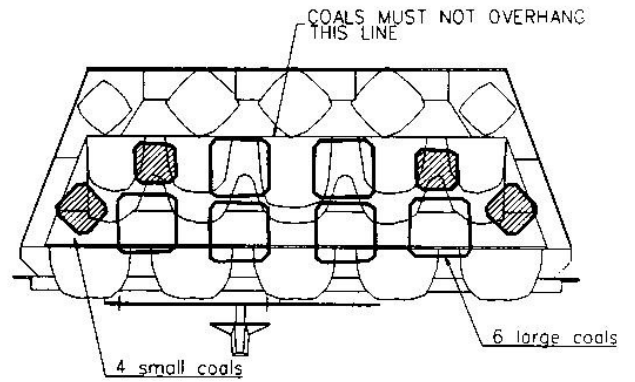

Fig.12 Placing the loose coals (Theme Plus)
9. Remove the coals from the bag; note that there are various sizes supplied with the burner. Place them on the ceramic blocks in accordance with Figs. 12 or 14.